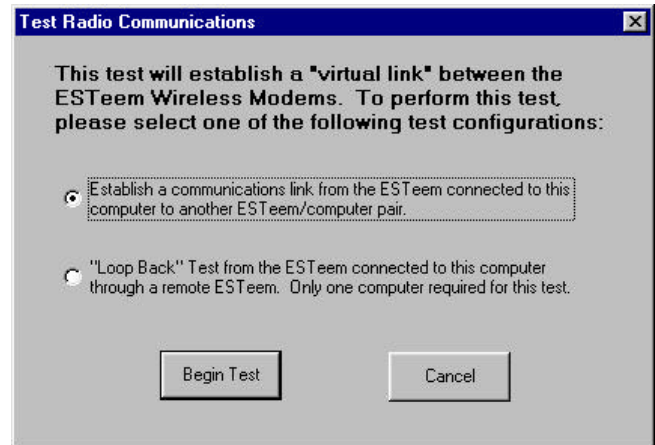

Figure 10: Test Radio Communication
15. Press Test Communication button. This section will allow you to test the radio frequency (RF) communications between two or more ESTeems. Two types of tests are listed in this window (Figure 10). If you have a computer attached to both ESTeems proceed to step 18 and if you only have one computer to test both ESTeems proceed to step 19.